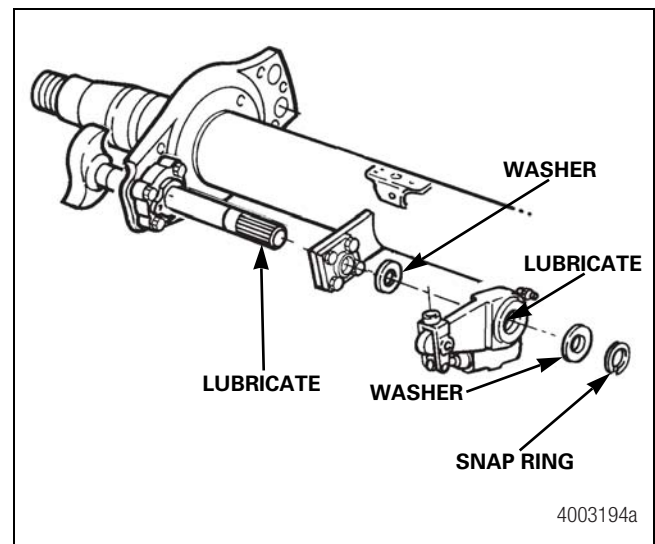

Figure 5.1
2. Lubricate the camshaft and slack adjuster splines with anti-seize compound. Install the slack adjuster, washers and snap ring. Figure 5.1.